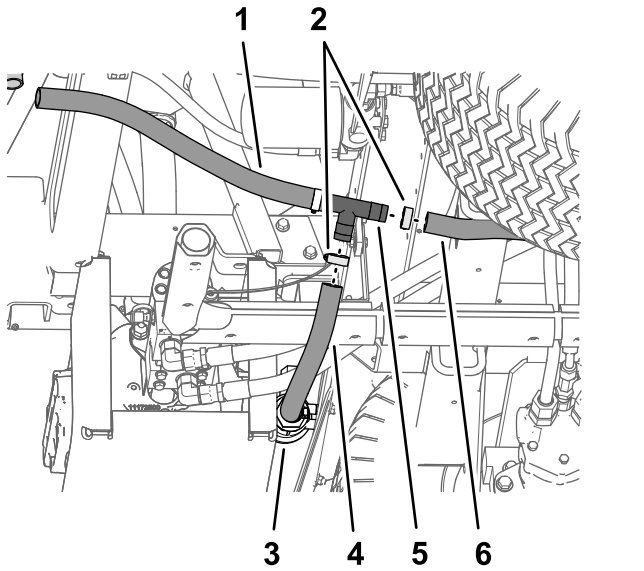

**Figure 44**
- Remove the retainer that secures the 90° barbed fitting of the bypass hose to the quick-disconnect fitting of the bypass valve at the right boom-section valve, and separate the hose and valve fittings (Figure 44).